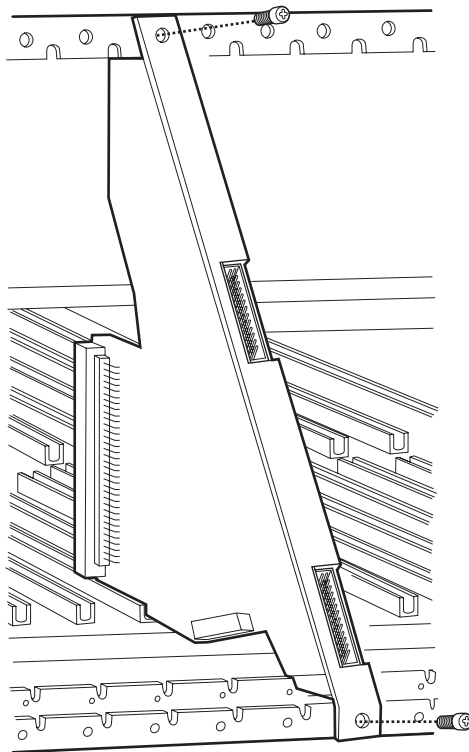

Figure 23. CM9760-DFC Downframe Card Installation
4. Slide the new card into the card guides (refer to Figure 23).